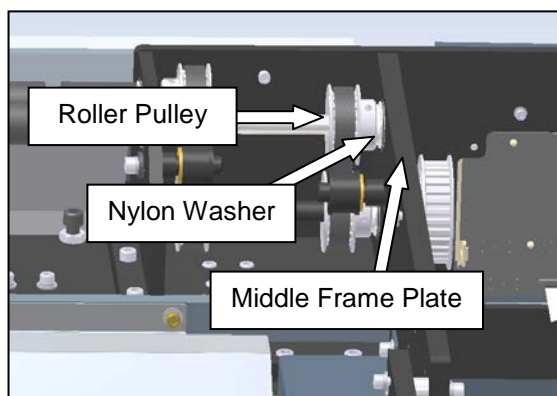

Figure 3-180. Reinstalling the Platen Roller
7. Install the new platen roller. First, slide the long end of the shaft into the left bearing plate. Once the shaft is about halfway in, slide the two platen roller pulleys in tandem over until the roller pulley is fully engaged on the roller shaft. Also, place the nylon washer removed in step 6 onto the shaft after the pulley (Figure 3-180).